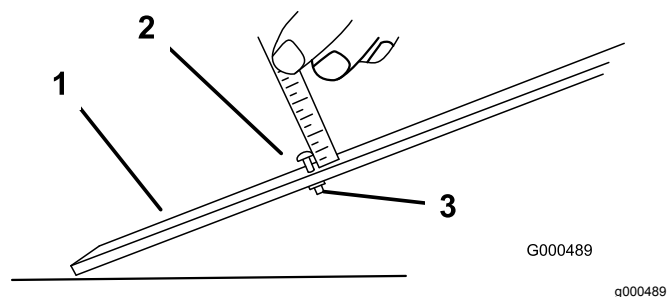

Figure 17
1. Loosen the nut on the gauge bar and set the adjusting bolt to the desired height of cut (Figure 17).